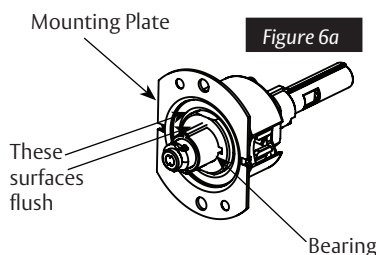

Figure 6a
- For 2" thick door the inside face of the mounting plate should be flush with the face of the bearing. (See Figure 6a).